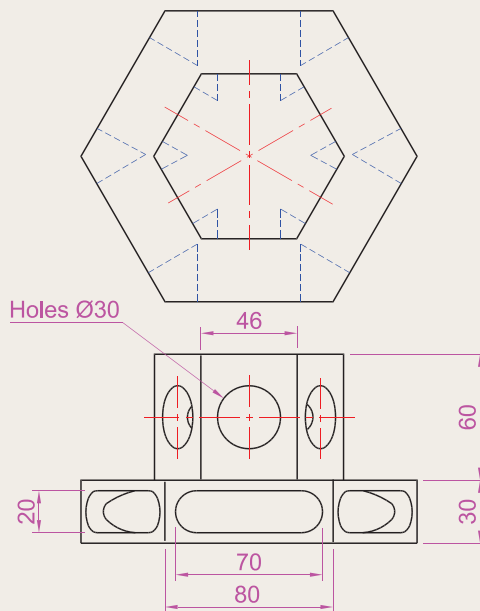

Fig. 17.35 Exercise 2 – details of shapes and sizes
- The two-view projection (Fig. 17.35) shows a stand consisting of two hexagonal prisms. Circular holes have been cut right through each face of the smaller hexagonal prism and rectangular holes with rounded ends have been cut right through the faces of the larger. Construct a 3D model of the stand. When completed add suitable lighting to the scene. Then add a material to the model and render (Fig. 17.36).